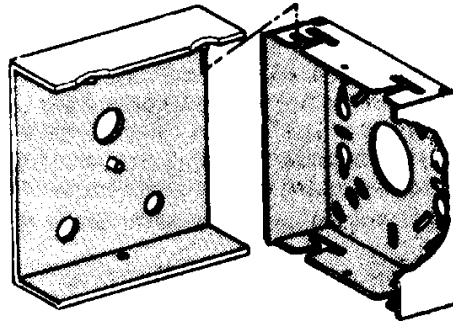

Fig. 1 Temporary support of canopy for wiring ease
3. For temporary hands-free support of the unit while making up wiring connections, with the left-hand end of the canopy toward the mounting plate, hold the canopy perpendicular to the wall. Insert the pin in the upper canopy flange into the slot at the upper left of the mounting plate, as far as the first transverse slot. Then slide the canopy pin to the left, to the end of the transverse slot, where it will act as a temporary hinge-like support for the unit. (It may be necessary to loosen the swivel locking screw and swing the lighting head out of the way to let the canopy be brought perpendicularly against the wall.) See Fig. 1.